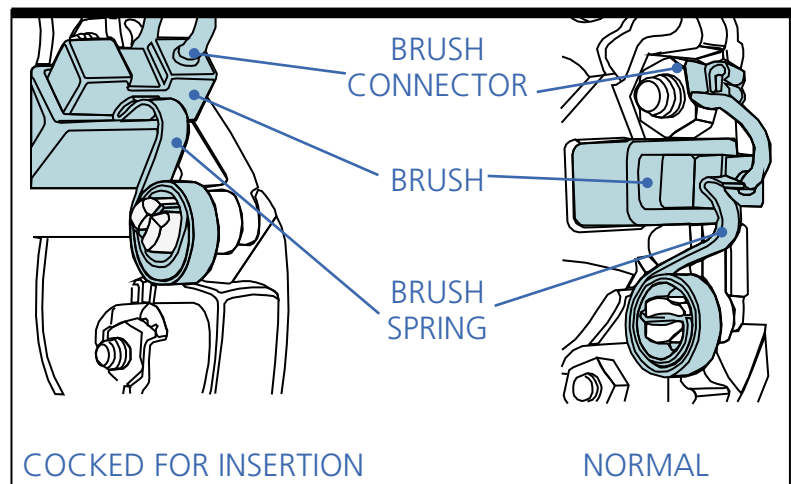

Figure 4-1. DC Motor Brushes with Gasketed Cover Removed
**Step 3—Replace Brushes.** Lift the brush spring from the end of the brush (see Figure 4-1). Remove the brush connector, withdraw the brush and inspect the length. To prevent motor damage, brushes should be replaced when or before they reach a length of 0.575" (15 mm). New brush length is 1.03" (26 mm). Reverse procedure to replace brush. Replace motor access and feeder covers. Connect power and air. Initial and date the Maintenance Log.